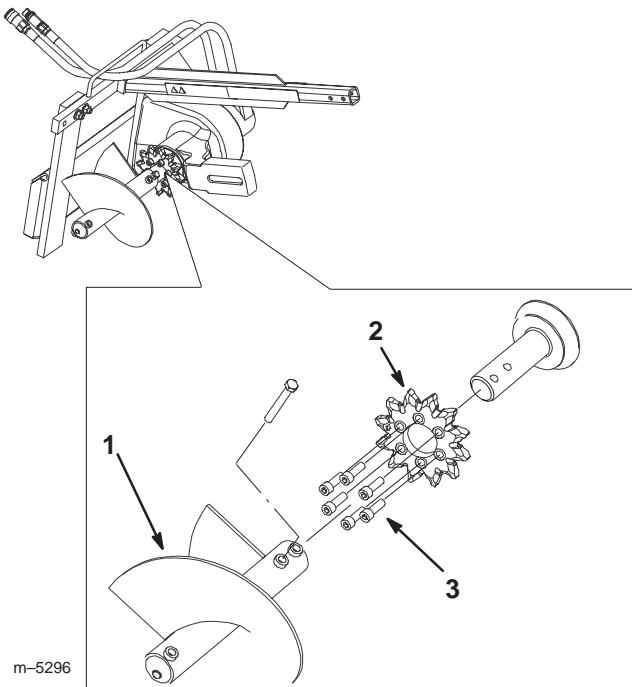

Figure 8
3. Remove the spoils auger (Fig. 8).
8. Remove the six bolts securing the drive sprocket (Fig. 8).
9. Remove and discard the drive sprocket (Fig. 8).
11. Slide the new sprocket onto the shaft as illustrated in Figure 8.
12. Thread the six bolts into the sprocket finger tight (Fig. 8).